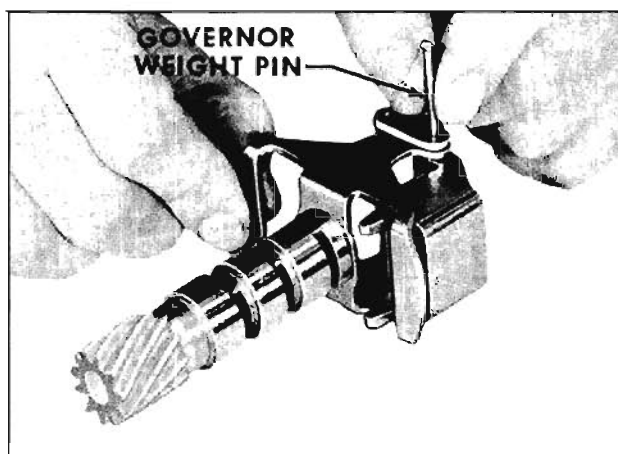

Fig. 6-373 Removing Governor Weight Pins
2. Remove governor weight pins. (Fig. 6-373)